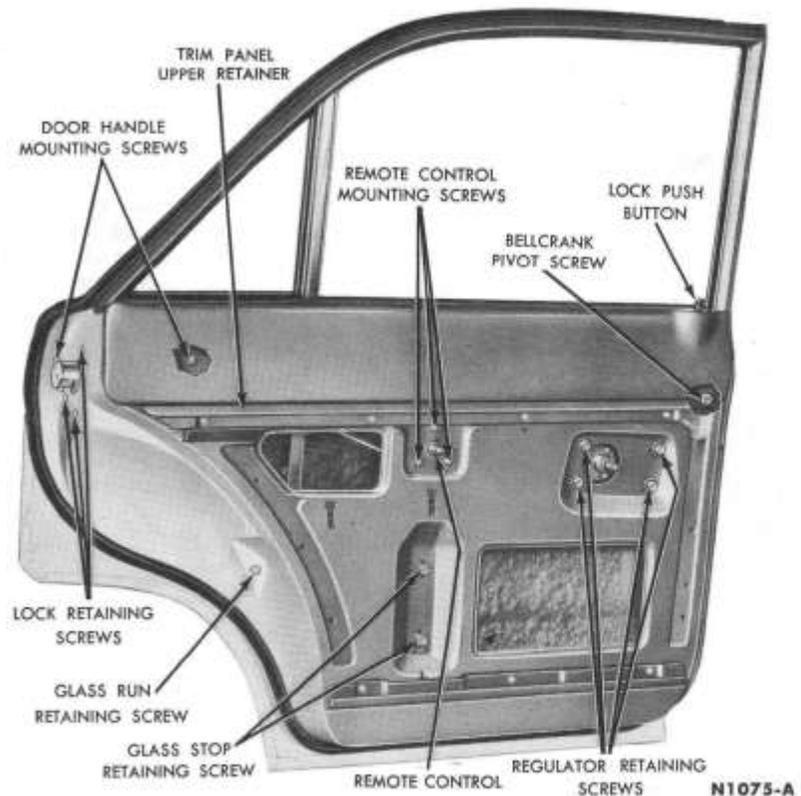

FIG. 7—Rear Door Lock Replacement
2. Remove the remote control mounting screws (Fig. 7), and then remove the remote control and link.